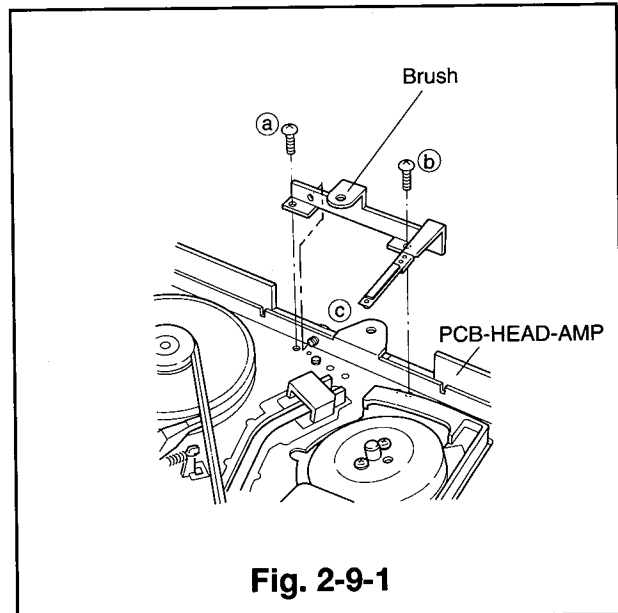

Fig. 2-9-1
2-9 Brush (Refer to the Fig.2-9-1.)
- ① Attach the brush on the position shown in Fig. 2-9-1 and secure it with the screws (a) and (b). Tighten screw (c).